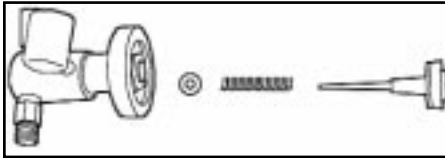

Figure 27
3. Remove the piston plunger assembly U-cup and motor return spring, plus the plunger seal retainer.(Fig.27)